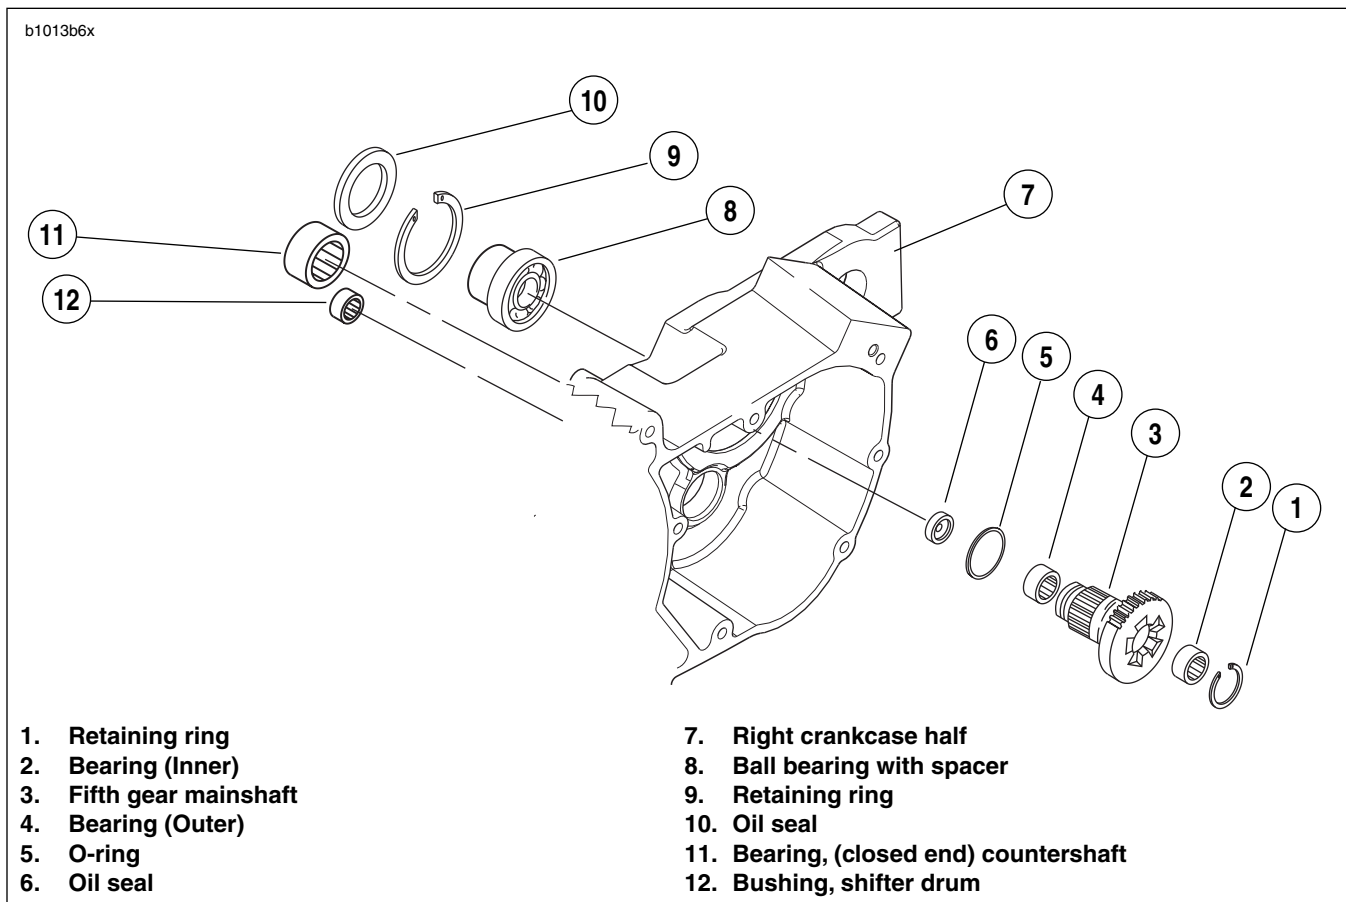

Figure 6-83. Transmission Assembly-Right Crankcase Half
2. See Figure 6-83. Install o-ring (4) into groove in main drive gear (2). Lubricate o-ring with GENUINE HARLEY-DAVIDSON FORMULA+ TRANSMISSION AND PRIMARY CHAINCASE LUBRICANT.
See Figure 6-83. Make sure to install **new** o-ring (6) onto main drive gear before installing main drive gear into crank-case.
4. At outside of case, place INSTALLER CUP (Part No. HD-35316-12) (4), NICE BEARING (5), FLAT WASHER (6) and NUT (7) over end of bolt. Tighten nut until main drive gear bottoms against main drive gear bearing.
6. See Figure 6-83. Tap in **new** oil seal (6) at threaded end of main drive gear to a depth of 0.060-0.030 in. (1.524-0.762 mm).
1. See Figure 6-83. From inside transmission case use a suitable BEARING DRIVER/PULLER to remove countershaft bearing (11) from crankcase bore.
2. See Figure 6-83. From the outside of the case place the needle bearing (11) open end first next to the bearing bore. Hold the driver squarely against the closed end of the bearing and tap the bearing into place. The bearing is properly positioned when it is driven flush or 0.030 in. (0.762 mm) below the outside surface of the case.
1. See Figure 6-83. Using SNAP-ON BUSHING DRIVER SET (Part No. A-157C) with a 1/2 inch adapter (Part No. A157-8), install **new** bushing (12).